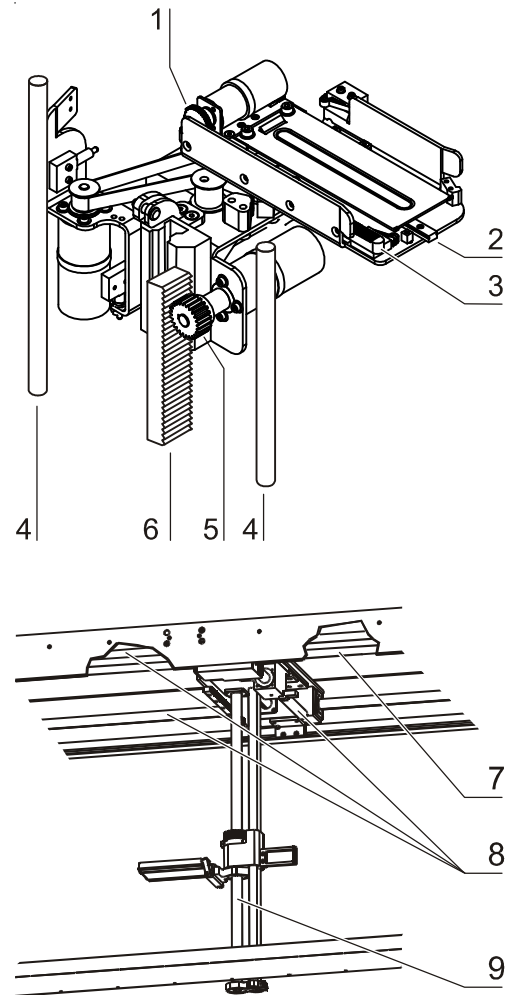

Fig. 32,
**Fig. 32:** After each cleaning and disinfection, the moving components of the lift system of the external Plate Shuttle™ System (PSS) as well as the guide rods and the spindles of the internal Plate Shuttle™ Systems (PSS) must be lubricated using special lubricant.